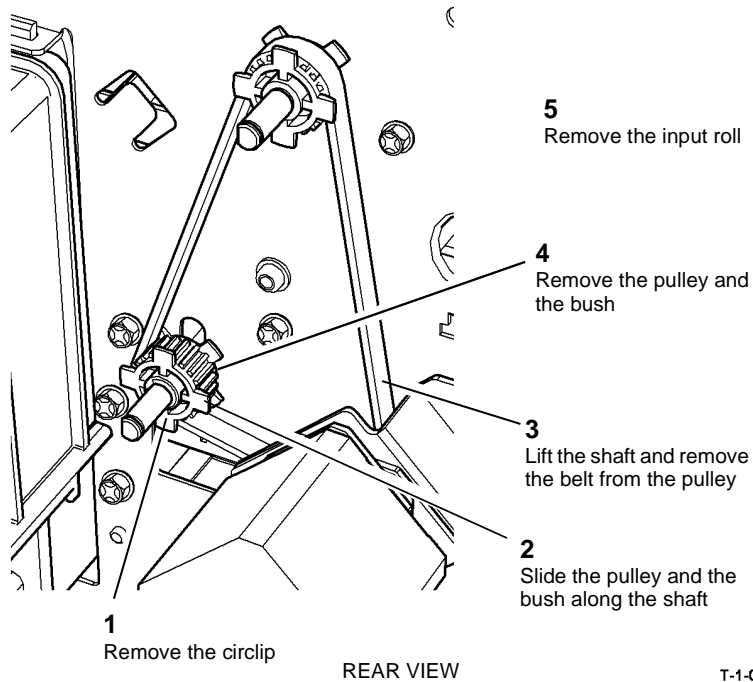

Figure 3 Input roll removal
4. **Figure 3.** At the rear of the HVF, remove the input roll.